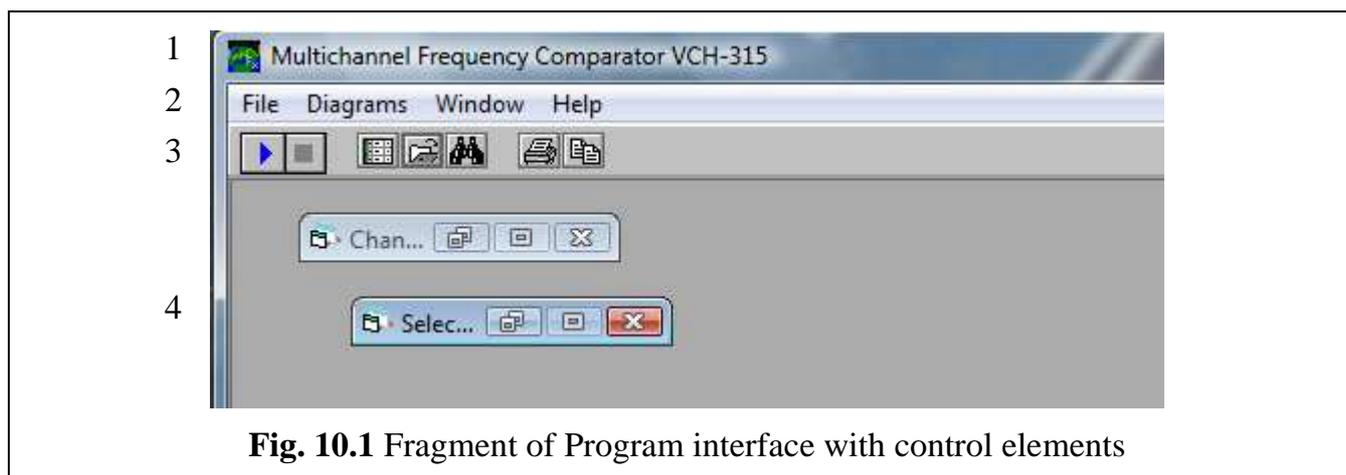
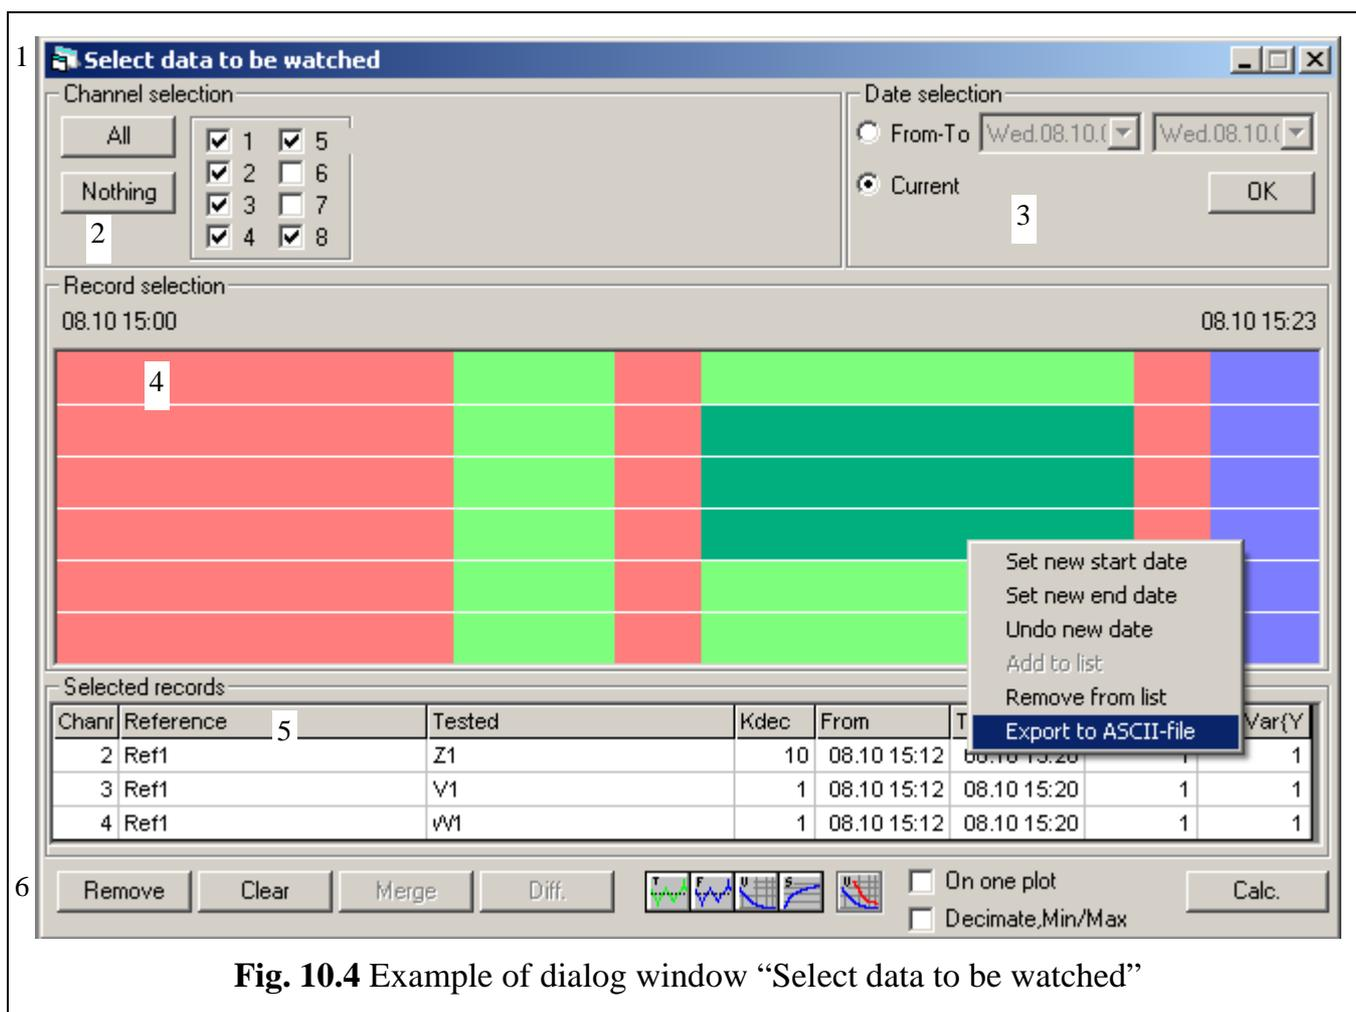

Fig. 10.1 Fragment of Program interface with control elements
Fig. 10.4 Example of dialog window “Select data to be watched”
Program interface has standard Windows application style. Fragment of the main window of Program is shown in Fig. 10.1.
To open window “Select data to be watched” (see Fig. 10.4) you should select item “Open” from menu “File” or to click on button  on the control panel (see Fig. 10.1).
Table of selected records is located in the field “5” on dialog window “Select data to be watched”, shown in Fig. 10.4. This table contains three rows for records, which can be selected from the diagram “Records selection” (field 4).
2. Click on the control button, which corresponds to the diagram you need. Control buttons are placed on the field “6” (Fig. 10.4), they are described in the next subsection.